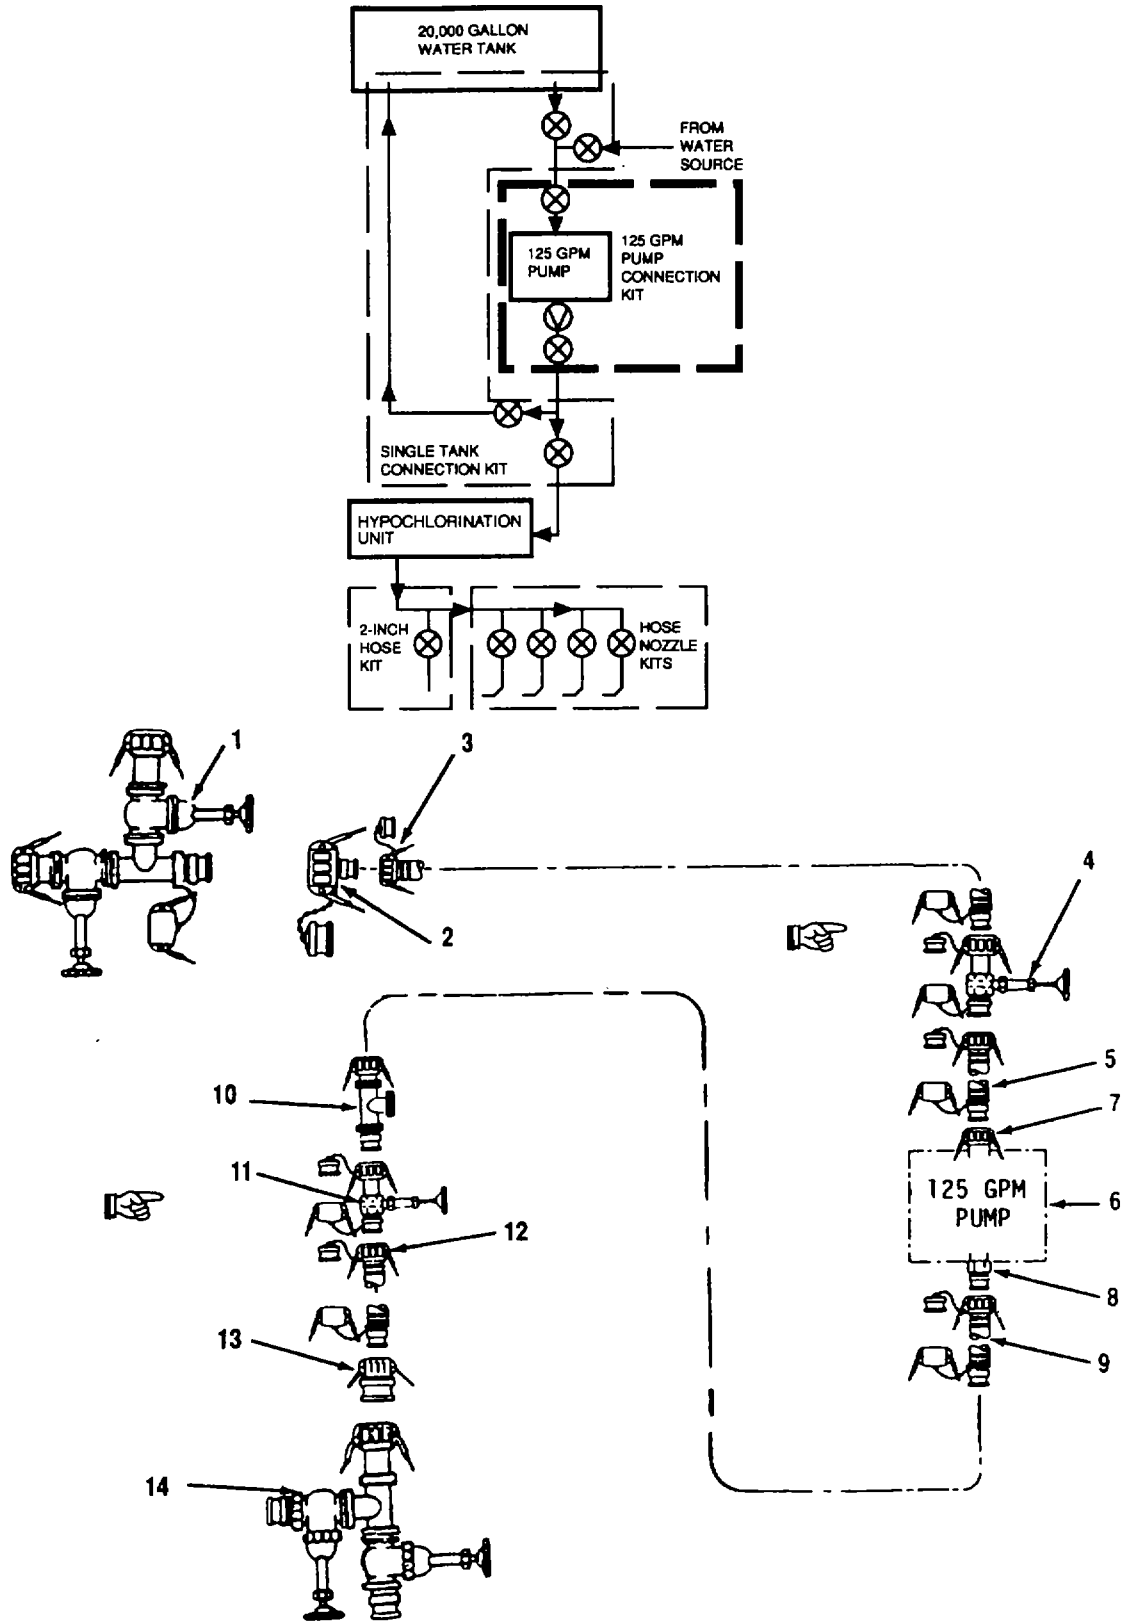

Figure 2-6. 125 GPM Pump Connection Kit Assembly
- f. Assemble 125 GPM Pump Assembly Connection Kit (Refer to Figure 2-6).